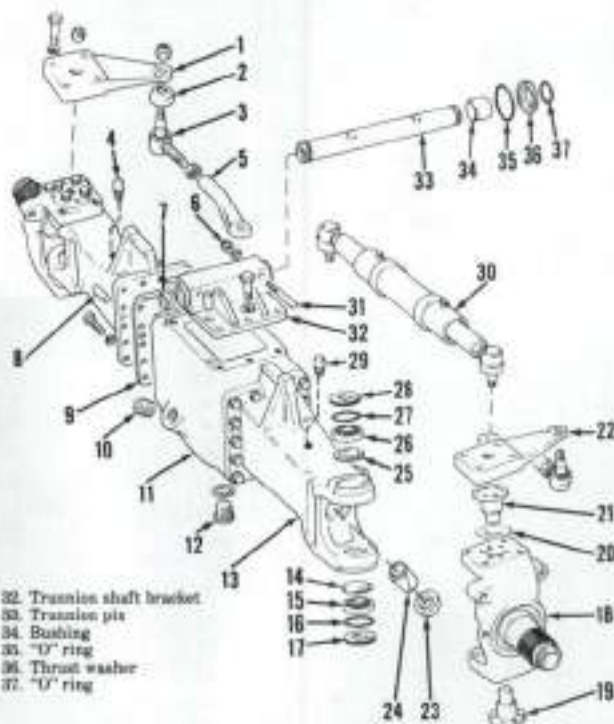

Fig. 6—Diagram showing correct dimensions for the placement of trunnion shaft bushings for models equipped with David Brown front drive axles.
**9. RENEW TRUNNION SHAFT BUSHINGS.** Remove axle assembly as outlined in paragraph 8. Remove the four trunnion shaft bushings (34—Fig. 5) using a suitable puller. Install bushings making certain grease hole in each bore is between the two bushings. Refer to Fig. 6 for correct bushing placement.